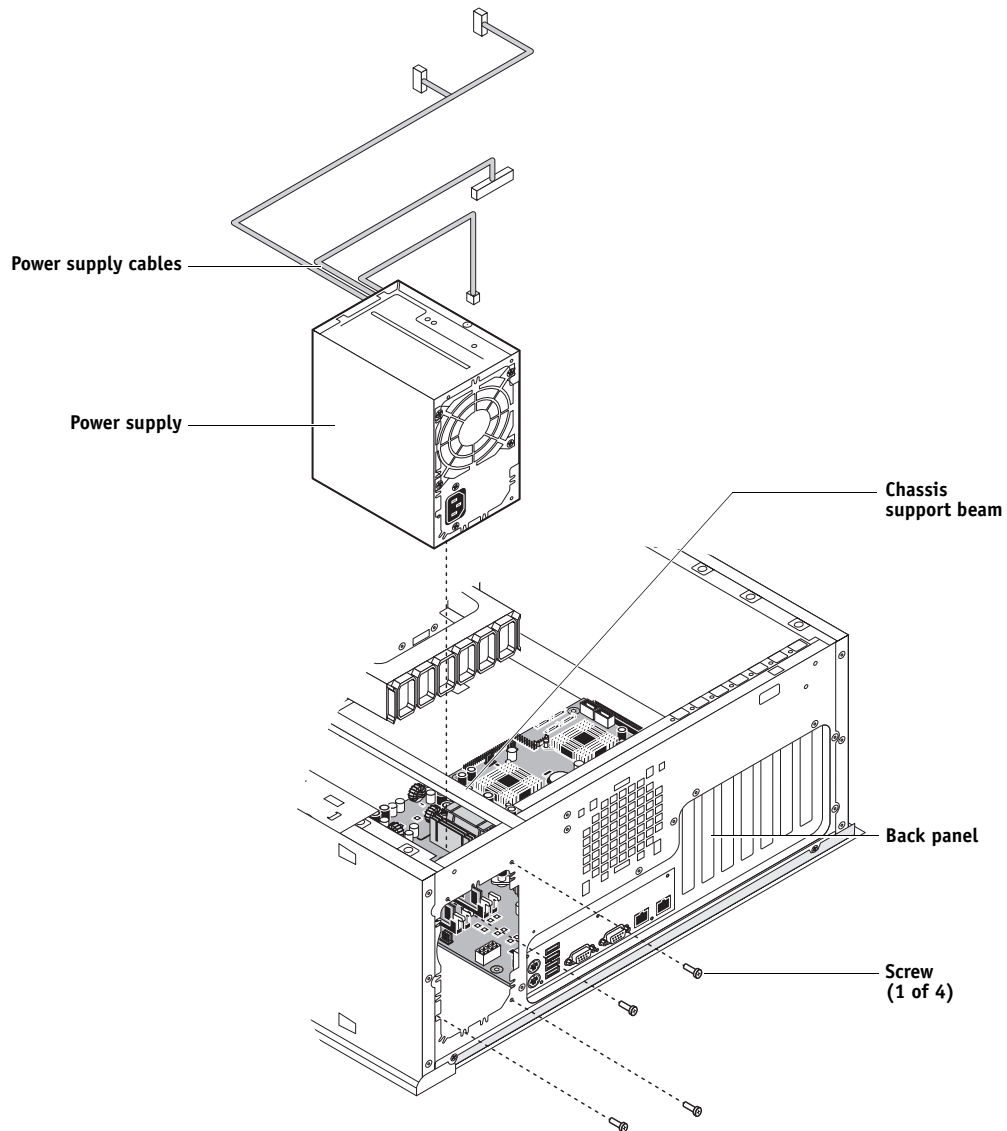

FIGURE 29: Removing/replacing the power supply
8. **Remove four of the five screws that attach the power supply to the back of the chassis (see Figure 29 on page 86).**
2. Attach the power supply to the chassis with the five screws that you removed earlier (see Figure 29 on page 86).
8. Locate the reusable tie-wrap that you removed earlier and use it to attach the loose section of the power cable to the chassis support beam (see Figure 29 on page 86).